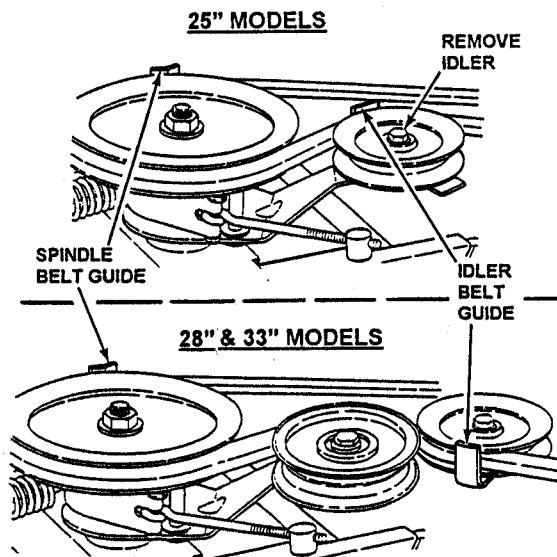

FIGURE 4.22
1. Remove idler. See Figure 4.22.
2. Move the transmission shift lever to the neutral (N) position.
4. Route belt through front belt guide to engine pulley/drive disc assembly. Route belt as shown for the model involved as shown in Figure 4.22.